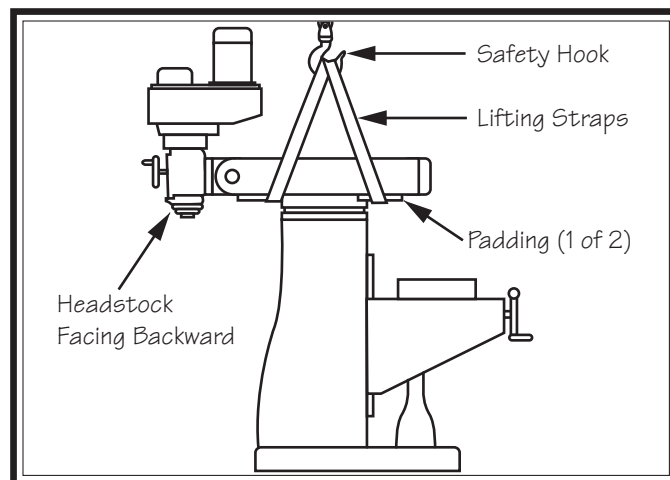

Figure 13. Lifting mill using web straps.
2. Rotate ram 180° so headstock is facing backward, then rotate head upright, as illustrated in **Figure 13**. (Refer to **Ram Movement** on **Page 34** and **Headstock Movement** on **Page 33** for detailed instructions).
3. Place lifting web straps under ram and connect them to safety hook, as illustrated in **Figure 13**.